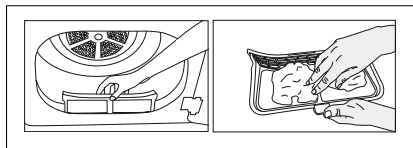

Figure 2
- 2.b) If the product's cover filter is as shown in Figure 2, remove the filter by pulling it up.